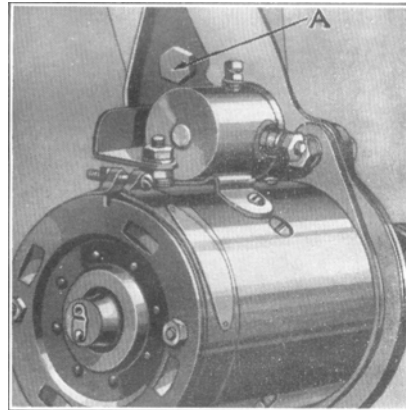

Figure 35
The clutch is drained without disturbing the flywheel guard by removing hex plug (A), Fig. 35, in the front face of the flywheel. Then rotate the flywheel until the first star stamped on the flywheel face appears in inspection hole over starter motor and allow the old fluid to drain out. Turn flywheel until filler hole reappears and refill with $\frac{1}{3}$ pint of HUDSONITE CLUTCH COMPOUND. Replace plug and tighten securely.